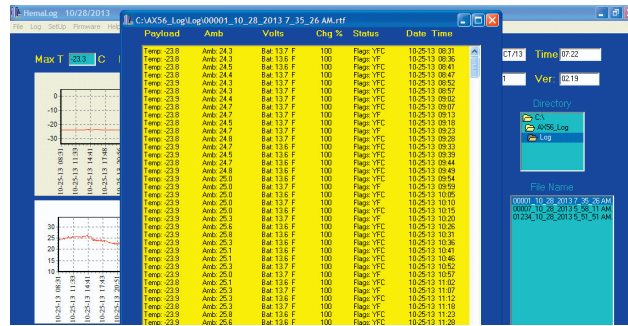

Figure 45. Example of a Data Full Screen
- **Data Full** screen (Figure 45) alerts the user that the data buffers are full and must be downloaded or deleted.